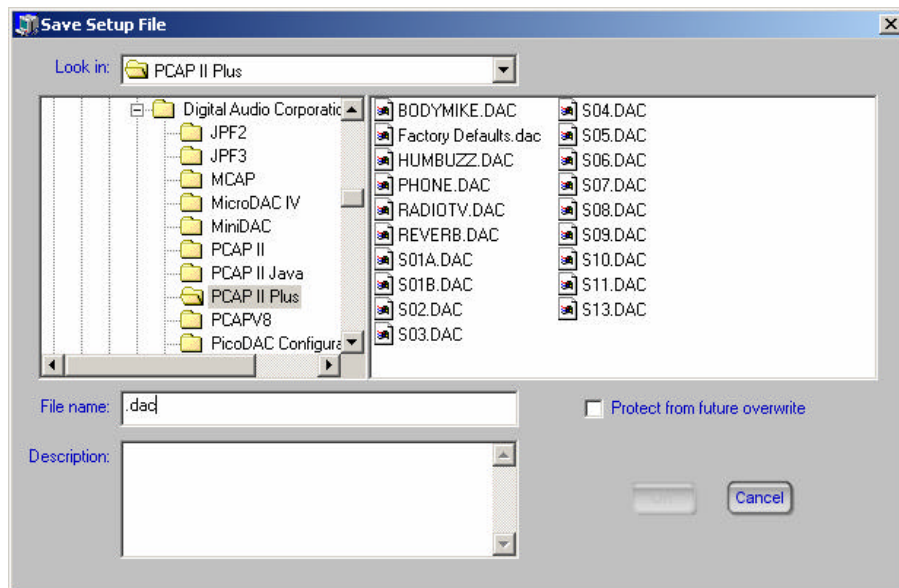

Figure 3-16 Tutorial Save Setup File Window
56. Click on **Save Setup File** to bring up the Save Setup File window as shown in Figure 3-16.